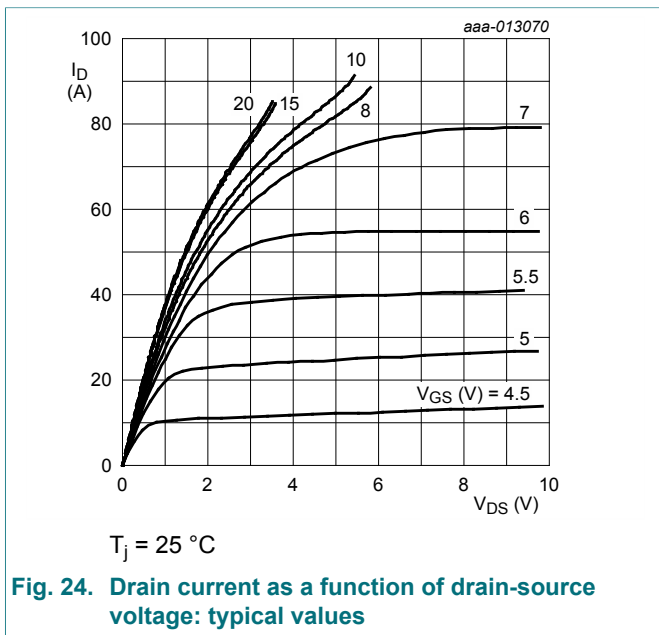

Fig. 24. Drain current as a function of drain-source voltage: typical values
Looking at Fig. 24, it would shift the gate drive curve from 7.0 V to 5.5 V for a worst case device (1.5 V shift).
13.9. Q: How is the maximum permissible drain current estimated, at the point of $V_{DS} = 0.1 \text{ V}$, from the SOA curve of the BUK9K12-60E shown in Figure 24? Some manufacturers describe down to the V_{DS} value in their SOA curves.